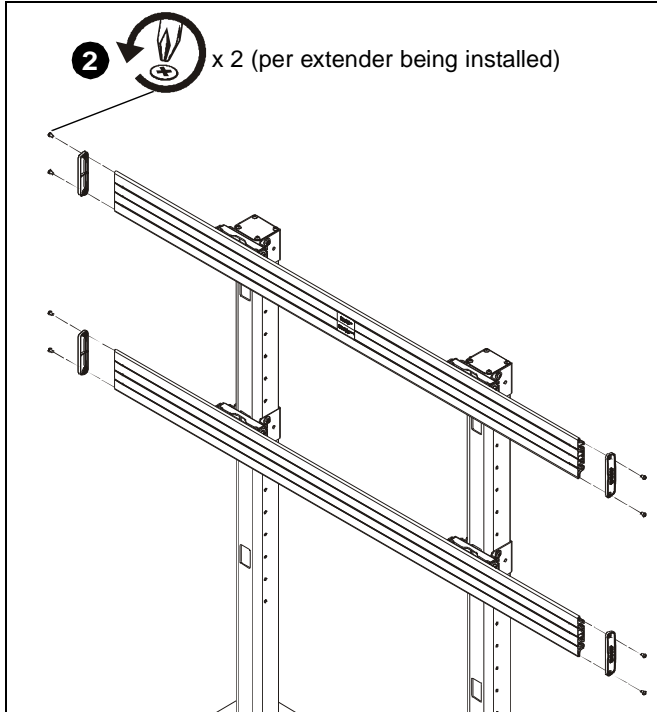

Figure 1
2. Remove ends from rails by removing two screws holding ends to rails. (See Figure 1)